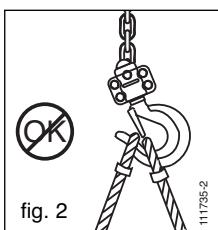

fig. 2
1. Check that the Bravo™ AC hoist is properly suspended by its suspension hook (item 5, fig. 1) and that the hook safety catch (item 6, fig. 1) is properly closed (see figs 2 and 3).
1. The anchoring accessory of the load sits fully in the hook and does not prevent the catch from closing correctly (see figs. 2 and 3).